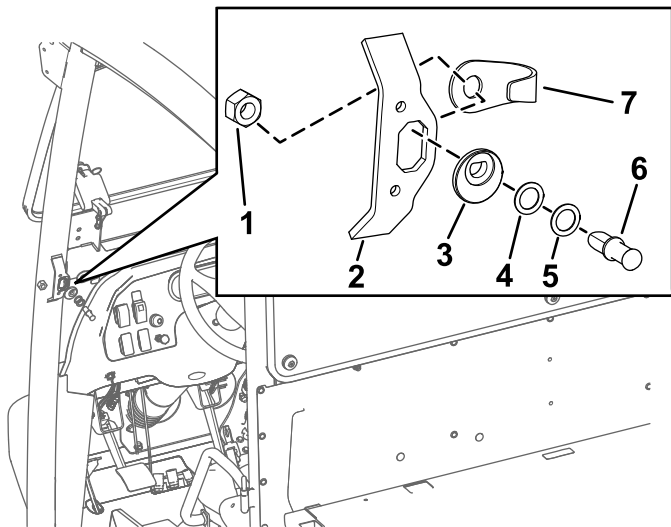

Figure 3
2. Align the latch-pin cam with the opening at the striker plate in the position shown in Figure 3.
3. Insert the latch pin (without the washers at first) into the latch-pin cam (Figure 3).
5. Align the latch pin and the jam nut onto the back side of the opening at the striker plate (Figure 3).
6. Tighten the jam nut onto the latch pin by hand (Figure 3).